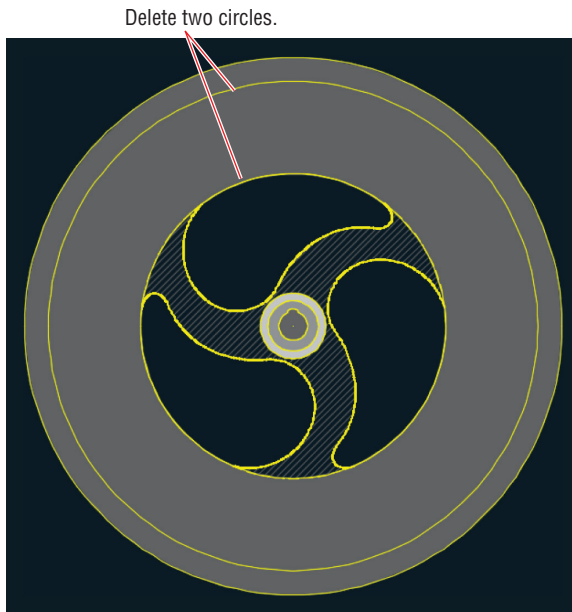

FIGURE 8.12 Deleting the re-created boundary objects
10. Click the Erase tool on the Modify panel, select the two re-created boundaries as shown in Figure 8.12, and press Enter.